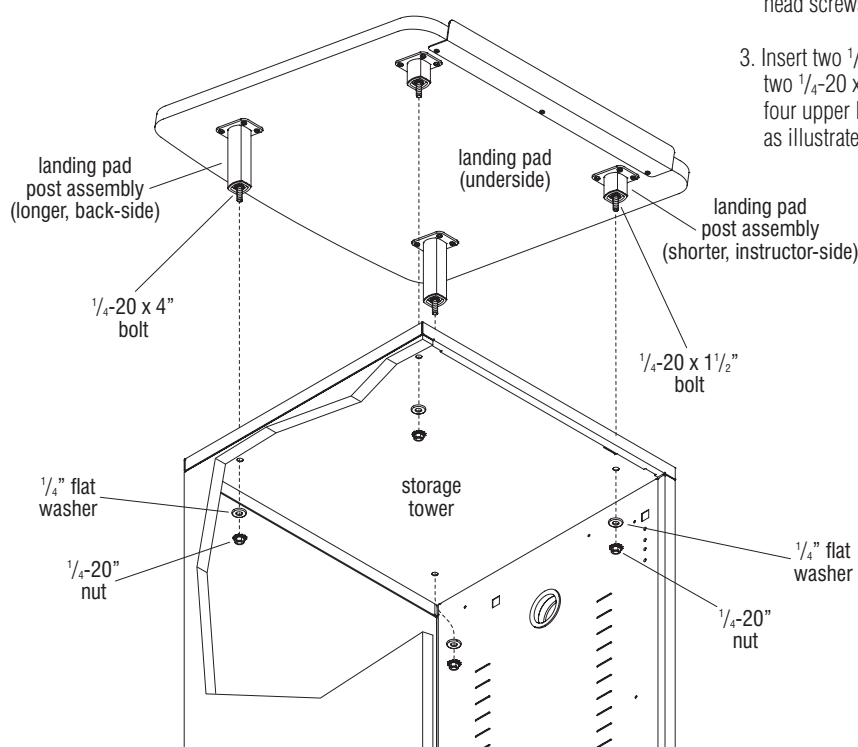

Figure 6
7. Orient the landing pad to be right-side up and with the document ledge to the user side of the storage tower as illustrated. Carefully position the landing pad with four landing pad post assemblies such that the four bolts insert down through the four mounting holes in the top of the tower (Figure 6).
8. From inside the tower, locate the 1/4-20 bolts inserted through the top and place a 1/4" washer and a 1/4-20 nut onto each bolt. Tighten nuts to secure the landing pad to the tower top (Figure 6).